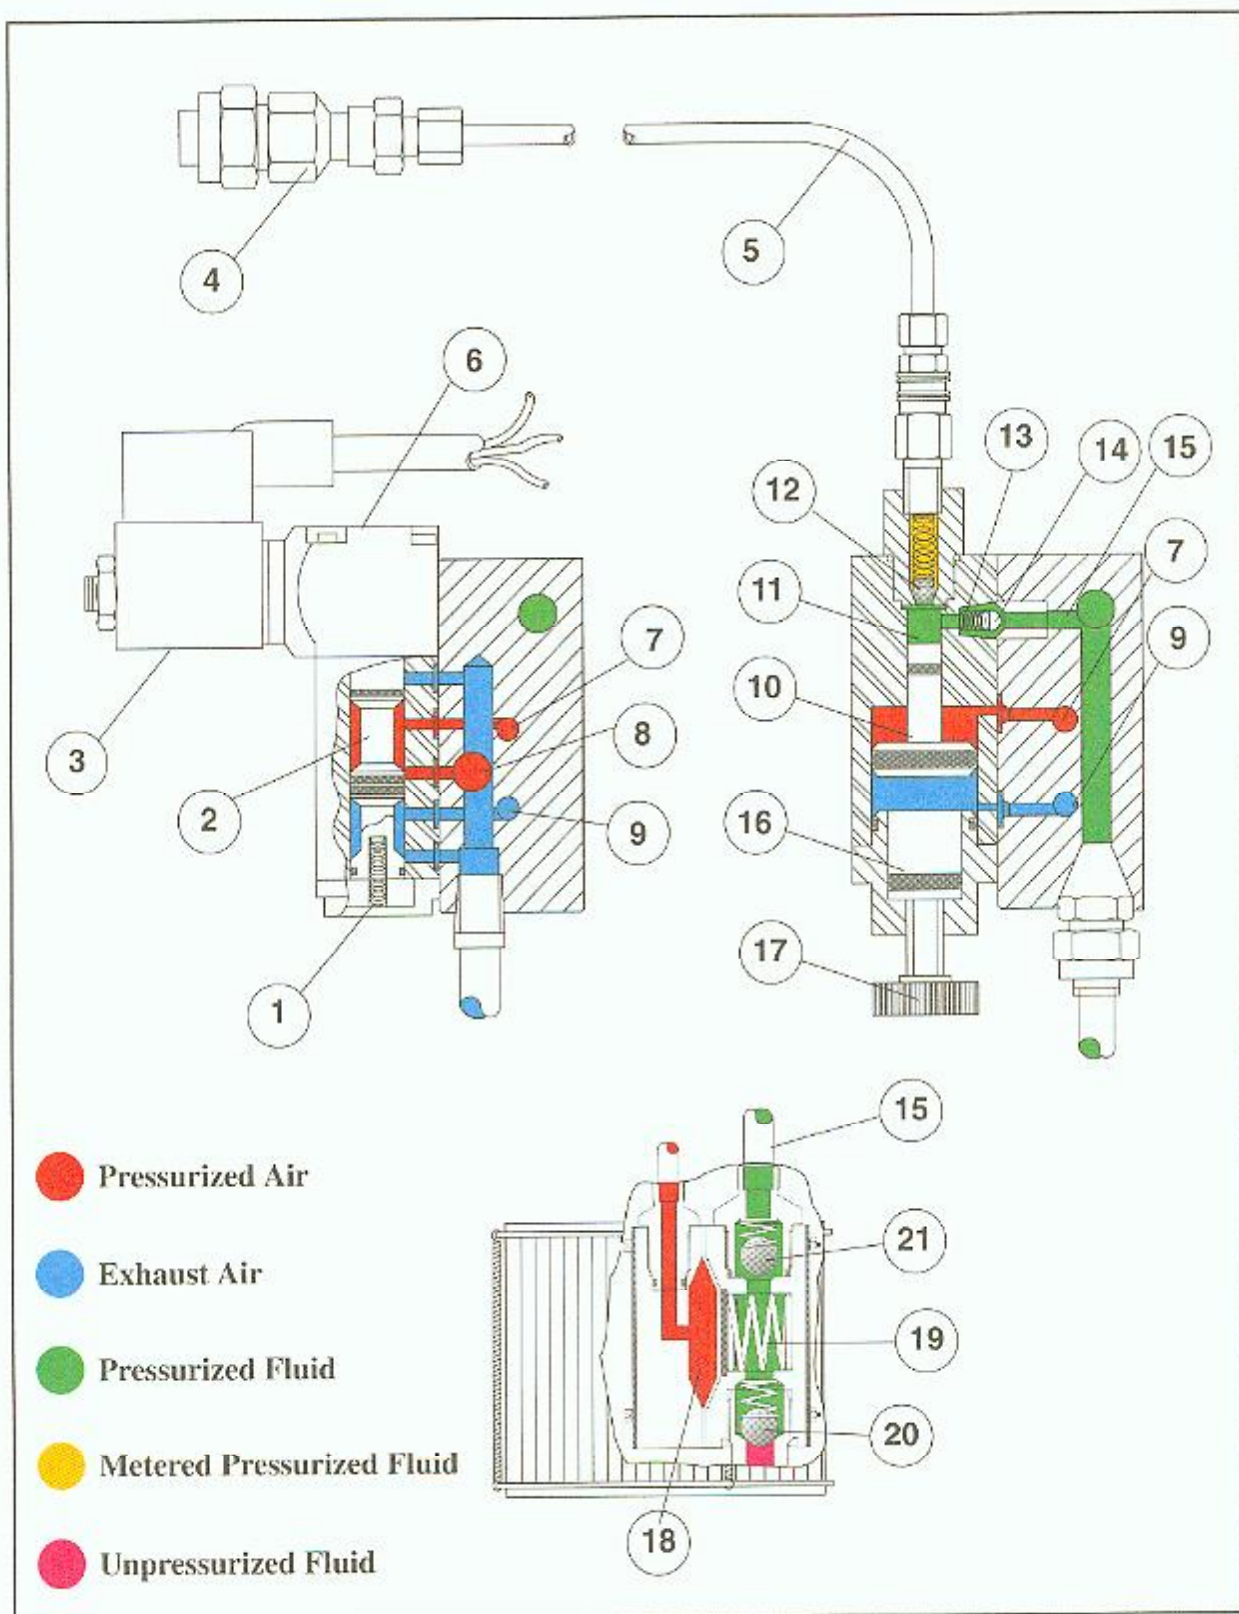
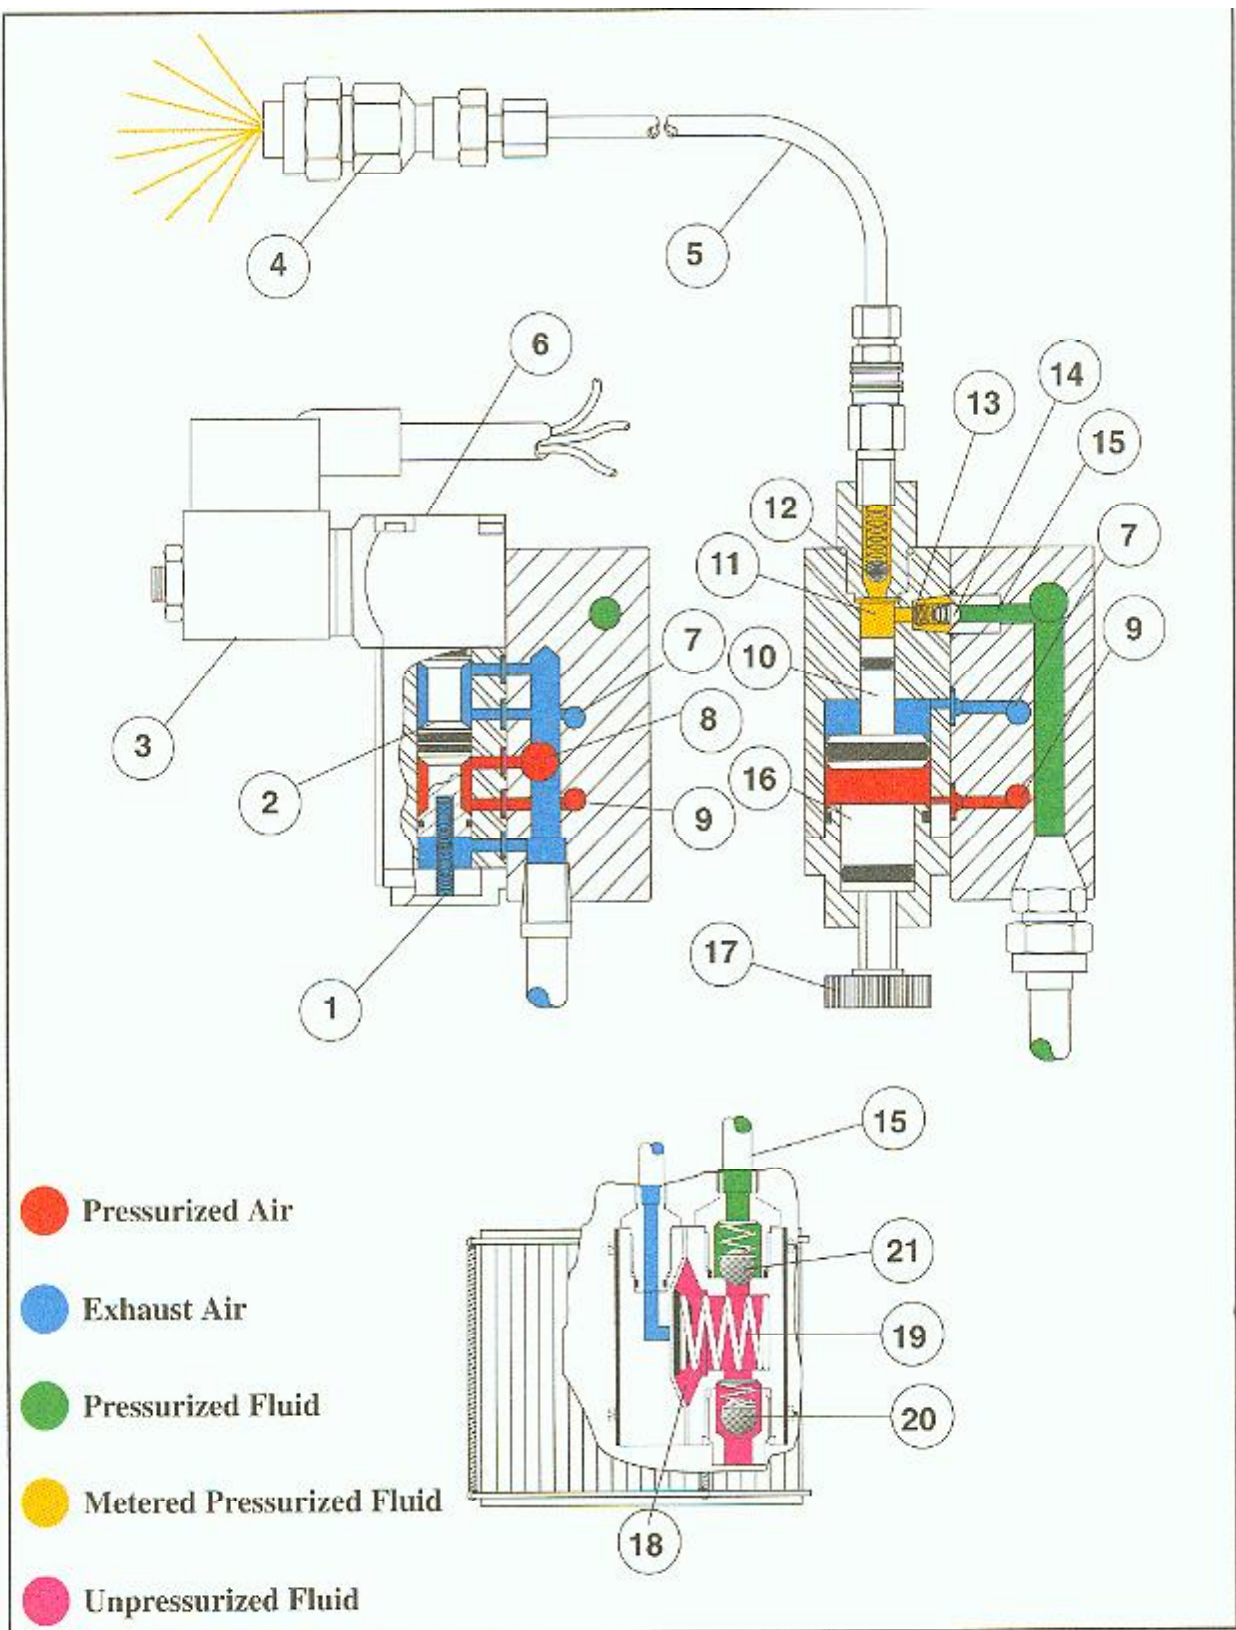

Figure 5. Pre-Pressurized Lubricant Intake
Figure 6. Pre-Pressurized Lubricant Output
SOLENOID, PUMP AND MANIFOLD ASSEMBLY (REFER TO FIGURES 5. & 6.)
The solenoid valve (6) switches the air between the manifold chambers (7 & 9) by the alternate energizing and de-energizing of the coil (3). Reference Fig. 5.; when the coil (3) is energized, chamber (7) is pressurized and chamber (9) is the exhaust. Reference Fig. 6.; when the coil is de-energized, the chambers reverse roles; chamber (7) becomes the exhaust and chamber (9) is pressurized. This is one full or complete cycle of the solenoid valve and pump assembly. It is important to note that the air is not mixed with the lubricant.
PRE-PRESSURIZED LUBRICANT INTAKE (REFER TO FIG. 5.)
PRE-PRESSURIZED LUBRICANT OUTPUT (REFER TO FIG. 6.)